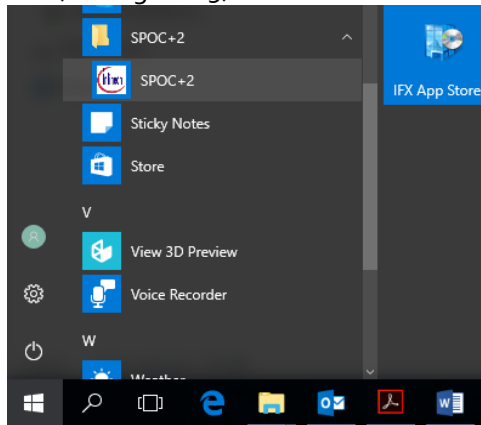

Figure 15 - SPOC+2 - Application - Finding it
- Installed Application can be found in the windows start menu in the section "all programs" → "SPOC+2" → SPOC+2 (see Figure 15):
- Run the program by clicking on the file (see Figures 15 and 16)